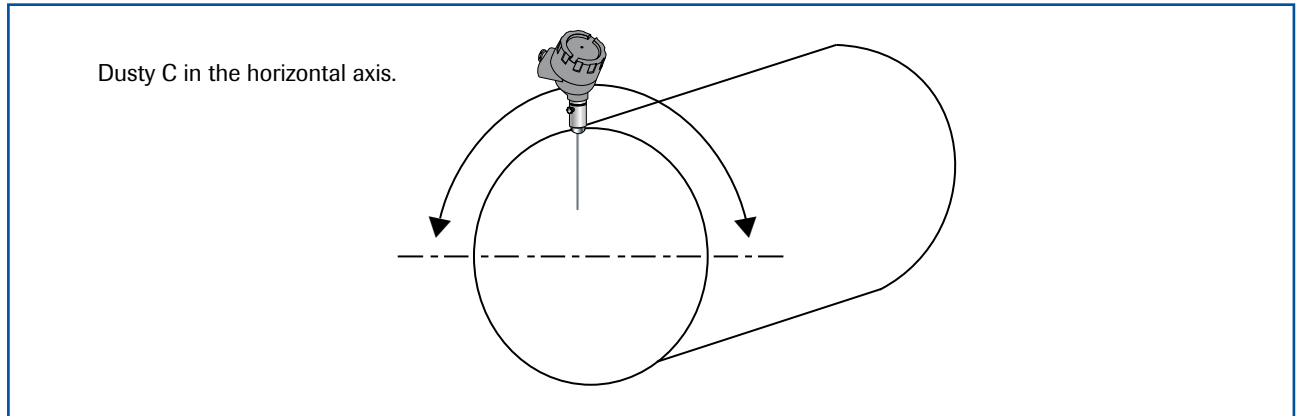

Fig. 2a: Round cross-section
2. In horizontal pipes with a round cross-section, Dusty C can be installed in any position above the horizontal axis (between 9 and 3 o'clock). (See figure 2a)